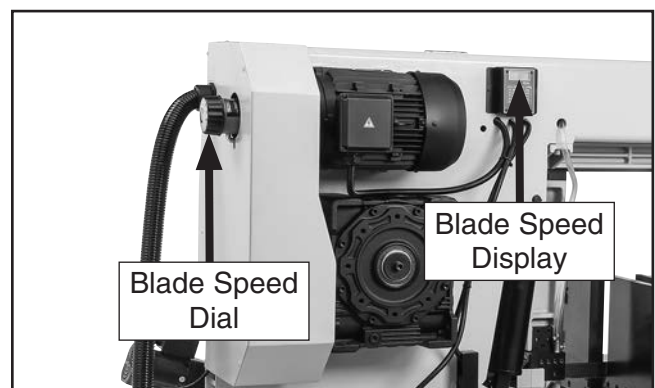

Figure 25. Blade speed dial location.
2. Rotate blade speed dial (see **Figure 25**) clockwise to decrease blade speed and counterclockwise to increase blade speed until blade speed display shows desired speed.